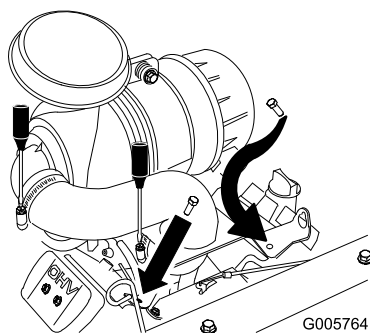

Figure 24
7. Align the holes in the air cleaner bracket with holes in the valve covers (Figure 24).
9. Install the hose clamp onto the hose and install the hose to the air cleaner (Figure 24).
10. Install the bolts into the back of the air cleaner bracket and into the motor (Figure 24).